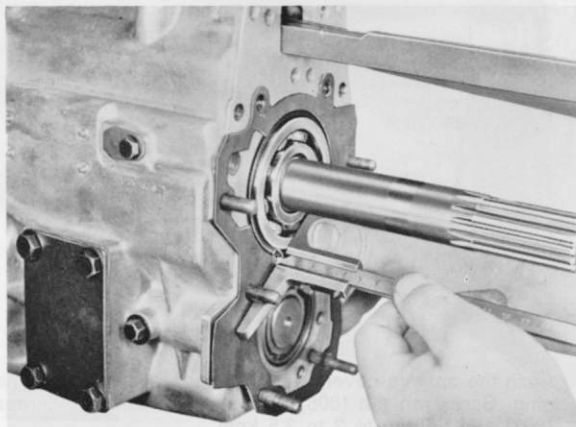

Fig. 56
1. Firstly, tap the outer ring of the roller bearing (303) on the largest diameter into the housing bore. For this, use a plastic or lead hammer.
2. Place gasket (802) on the gearbox rear housing.
3. Gently, with a plastic or lead hammer, tap the outer ring of the ball bearing (423) into the housing up to the stop. With a depth gauge measure the distance from the upper surface of the outer bearing ring to the gearbox joint face with gasket in place (Fig. 56).